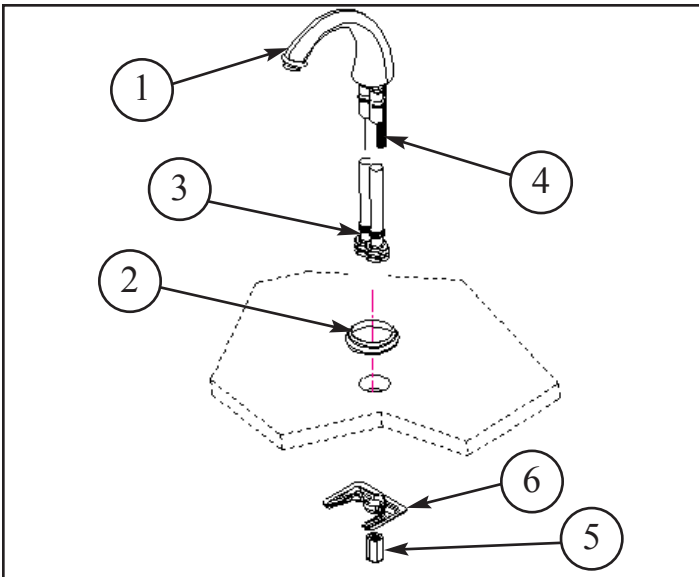

Figure 1
1. Insert HOSES (3) an MOUNTING STUD (4) through ESCUTCHEON (2) and sink hole, (apply putty or silicone to underside of ESCUTCHEON (2). Align SPOUT (1) and secure into place with mounting BRACKET (6) and NUT (5). See Figure 1.